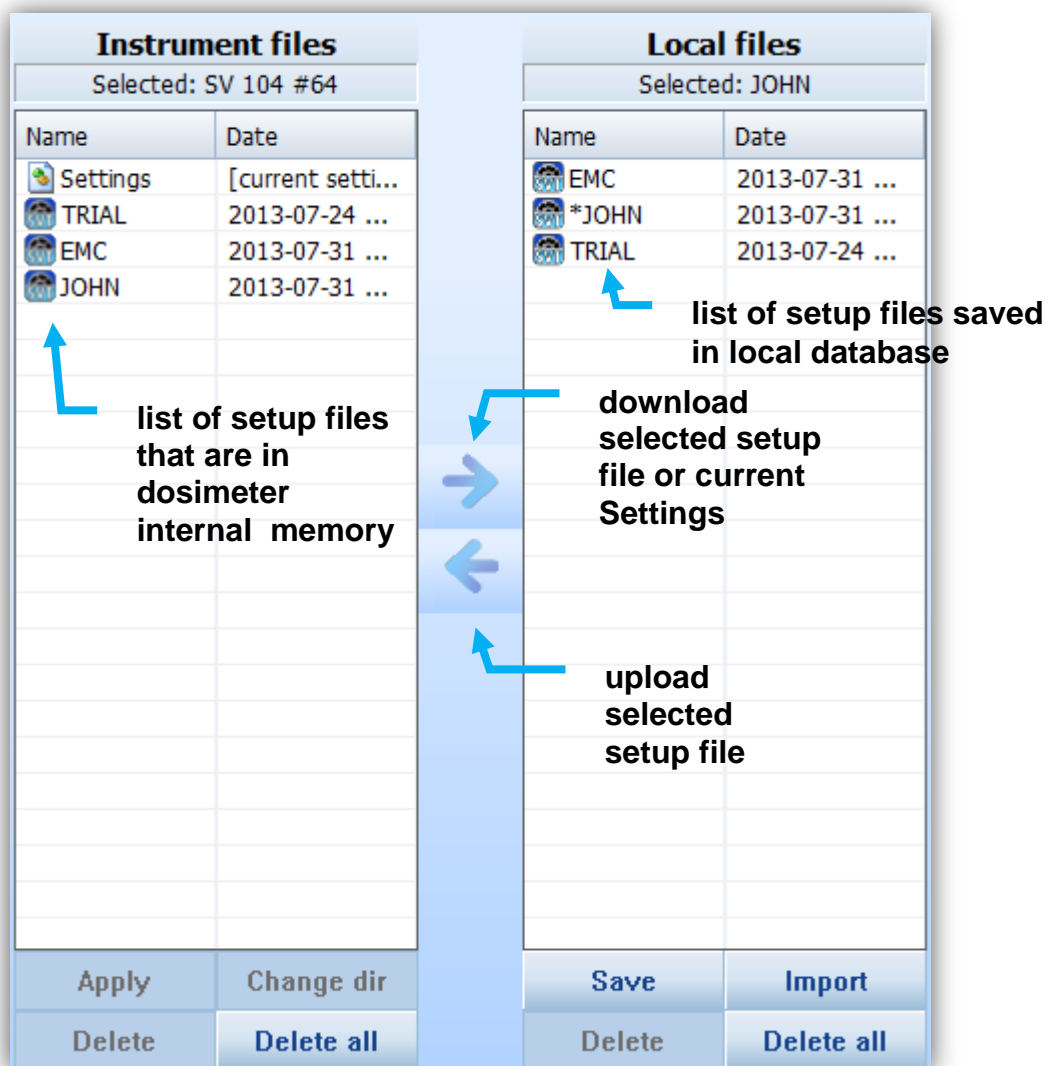

Figure 5-4 Setup files manager panel
1. Select the **"Settings"** row position in left side panel named **"Instrument files"** (Figure 5-4)
2. Click the right arrow pictogram to download instrument **"Settings"** configuration setup to **"Local files"** right side panel (Figure 5-4)
5. Once configured, come back to setups file manager (Figure 5-4) and click the just edited **"Settings"** in **"Local files"** panel
6. Next click the "save" button in bottom area of the panel (Figure 5-4)